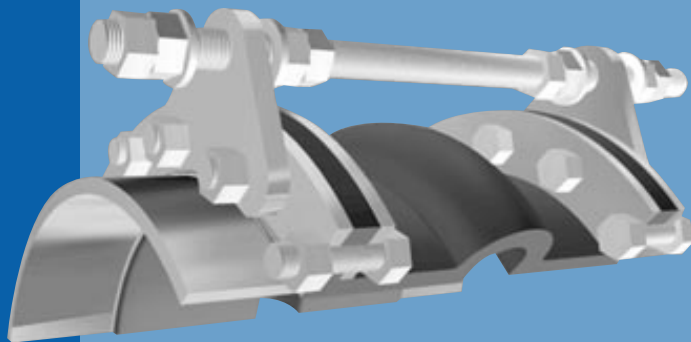

Figure 2: Control Rod
Figure 2 — Known as a “CONTROL ROD”, this control unit configuration is used to allow specified pipe expansion (expansion joint axial compression) and pipe contraction (expansion joint axial extension) movements. Nuts shall be field set to no more than the maximum allowable extension or compression of a rubber expansion joint. Refer to Tables 2, 3 or 4 in this Manual.
- Control rod plate O.D. installed dimension is based on a **maximum** O.D. PROCO would supply. (Figures 2 and 3.)